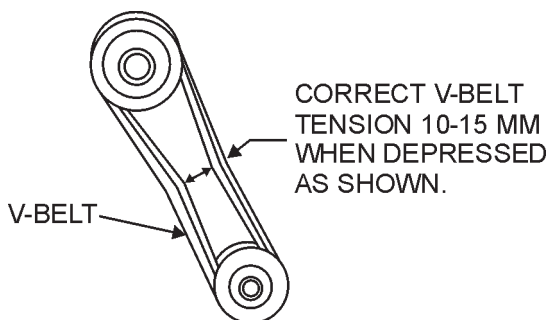

Figure 23. V-Belt Tension
2. The V-belt tension is proper if the V-belt bends 10 to 15 mm (Figure 23) when depressed with finger at midway between the clutch and vibration pulley shafts.